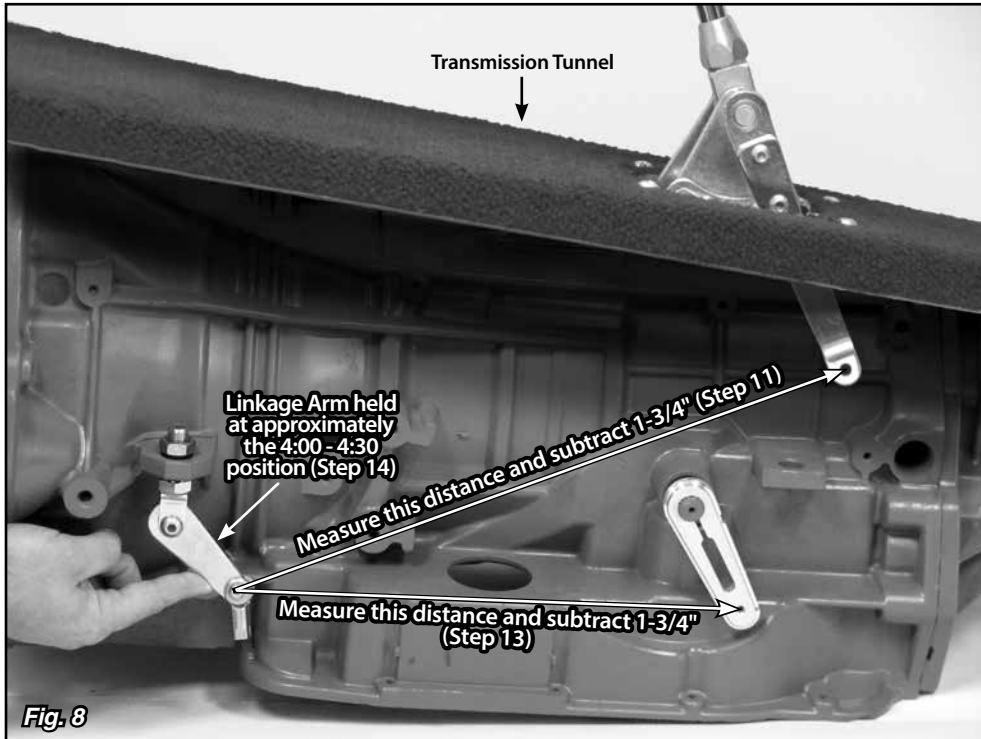

Fig. 8
Verify that both the shifter lever and the transmission are in the Park position. Hold the linkage arm at approximately the 4:00 - 4:30 position. Measure center-to-center from the 1/4"-28 button head bolt in the bottom of the linkage arm on the transmission to the 1/4" hole in the quad arm on the shifter assembly. Subtract 1-3/4". **Fig. 8** This is the length you will cut the long threaded rod to. Use a hacksaw or cutoff wheel to shorten the long threaded rod, and then, de-burr the cut end of the rod.
Step 13: The short threaded rod will connect the linkage arm to the billet trans arm. Check to make sure that nothing will interfere with the travel of the short threaded rod. **If there is any interference, the short threaded rod can be bent slightly as needed.** Measure center-to-center from the button head bolt in the bottom of the linkage arm to the center of the 1/4" hole in the bottom of the billet trans arm. Subtract 1-3/4". **Fig. 8** This is the length you will cut the short threaded rod to. Use a hacksaw or cutoff wheel to shorten the threaded rod, and then, de-burr the cut end of the threaded rod.